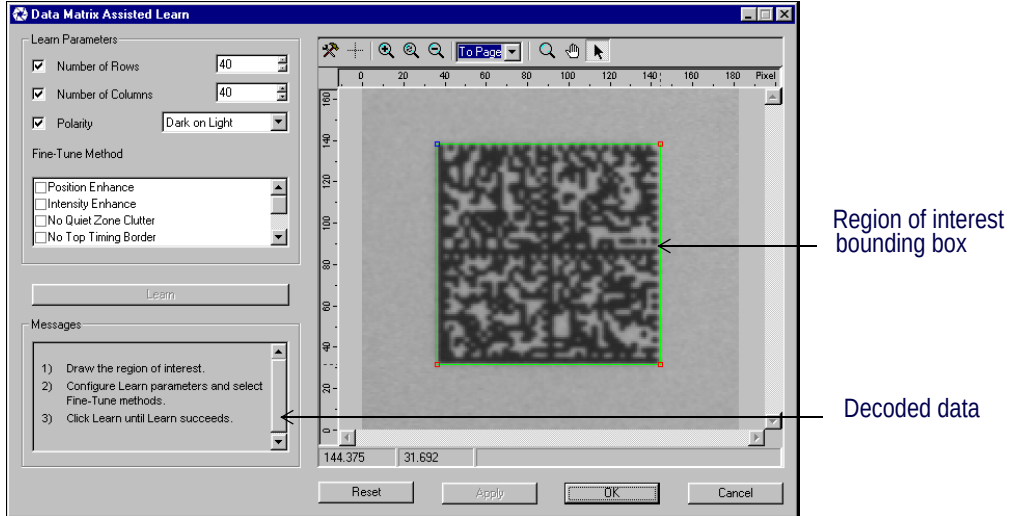

Figure 429 Data Matrix Reader — Assisted Learn Interface
- Drag a bounding box around the data matrix that is displayed in the image. If necessary, readjust the sides of the bounding box so that they are snapped tightly to the edge of the matrix, as shown in Figure 429.
- Use the corner handles to adjust the size of the bounding box so that tightly encloses the matrix, i.e. closely snap the rectangle sides to the matrix edges, as show in Figure 429.